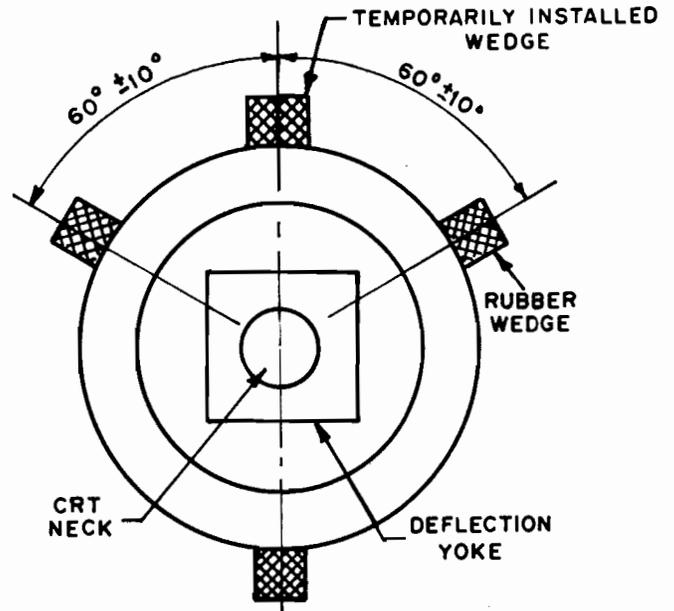

FIGURE 7
#### 4.0 PRECISE ADJUSTMENT OF DYNAMIC CONVERGENCE (See Fig. 7, 8 and 9)
- 4.3 Insert three rubber wedges to the position as shown in Fig. 7 to obtain the best circumference convergence.
- 4) The position of each rubber wedge is shown in Fig. 7.